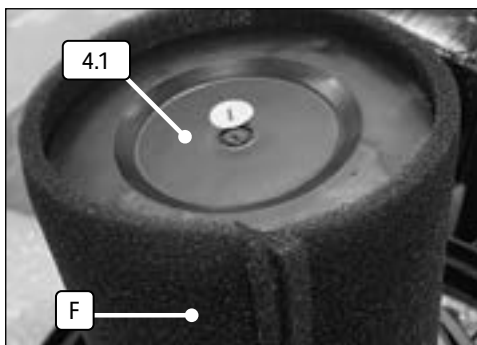
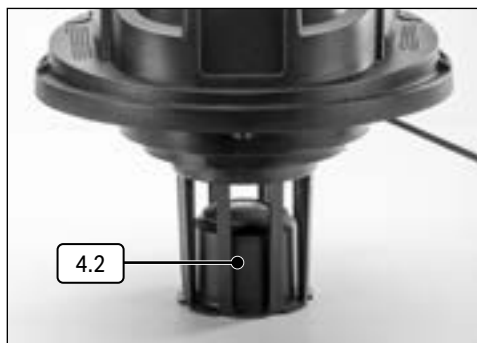

Fig. 7
Fig. 8
### 8.2 Wet Vacuuming (Fig.7 – Fig.8)
2. Remove the dustbag (I) and cloth filter (G) if fitted.
3. Fit the foam filter (F) by carefully sliding the foam sleeve completely over the filter/float cage (4.1). (Fig. 7).
- When vacuuming large quantities of liquid use the crevice tool (D). **DO NOT** immerse the tool nozzle completely in the liquid to allow for adequate air flow.
- The vacuum is fitted with a float valve (4.2) that will cause the motor to work harder and become noisier when the maximum liquid level is reached. Empty the tank. (Fig. 8).